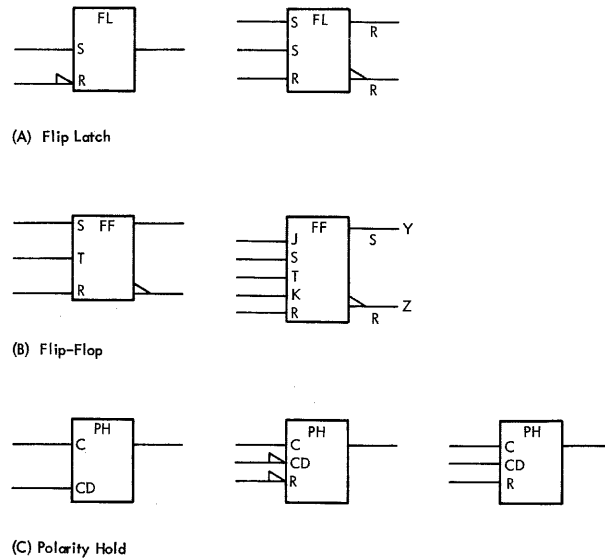

Figure 2-38. Inputs to Storage Blocks
Figure 2-38 shows several combinations of inputs as they appear in FF, FL, and PH blocks. These inputs are defined as follows:
The flip latch has only inputs S and R (example A, Figure 2-38). When the set input is active, all outputs are at their indicated polarity. When the reset input is active, all outputs are at a polarity opposite to that indicated. Generally, the outputs are unknown if the set and reset inputs are applied simultaneously. However, if the outputs can be determined for simultaneous set-reset, an S or R below an output indicates its condition, either set or reset.
A flip-flop can have five types (S, R, J, K, and T) of inputs or multiples of them, in different combinations (example B, Figure 2-38). Inputs J and K act like inputs S and R, respectively, in the flip latch, except that simultaneous application of a J set and K reset will complement the output. The T input complements each output. In the FF
A polarity hold block (example C, Figure 2-38) must have a control (C) input and a controlled data (CD) input. This block may have a set (S) and a reset (R) input.